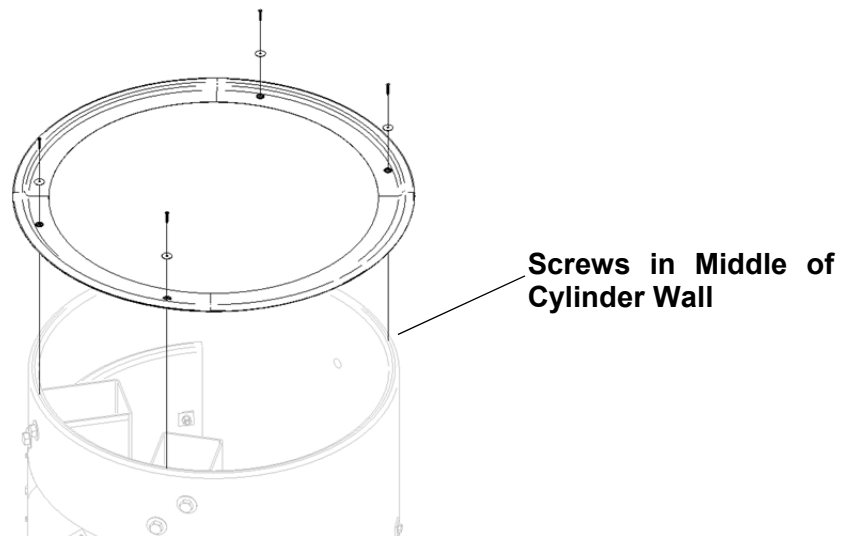

Figure 28
Next attach the four (4) #10 flat head self-tapping screws and fender washers, ensuring all screws are positioned in the middle of the Cylinder wall (see Figure 28).